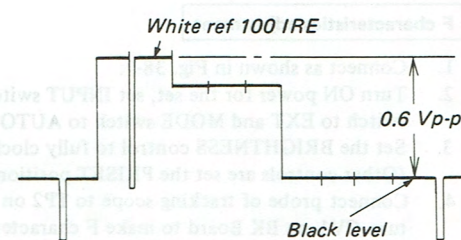

Fig. 36-3. CONT PRESET LEVEL ADJ
9. Turn H Board RV8 and adjust so that the difference between the black level and the white ref 100 IRE peak level is 0.6 Vp-p. See Fig. 36-3.